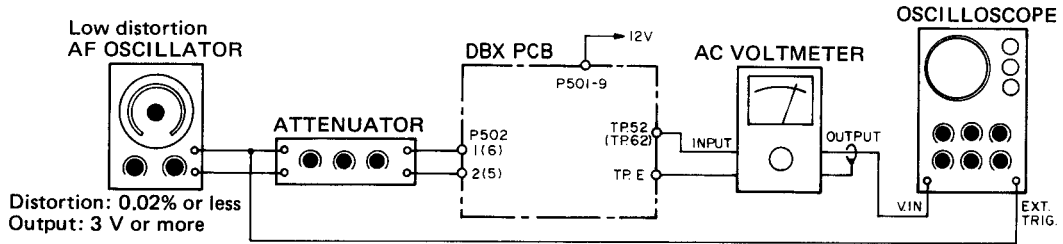

Fig. 5-12
2. Make the Fig. 5-12 connections, then feed 100 Hz,  $-8$  dB (308 mV) to 1(6) terminal (INPUT).